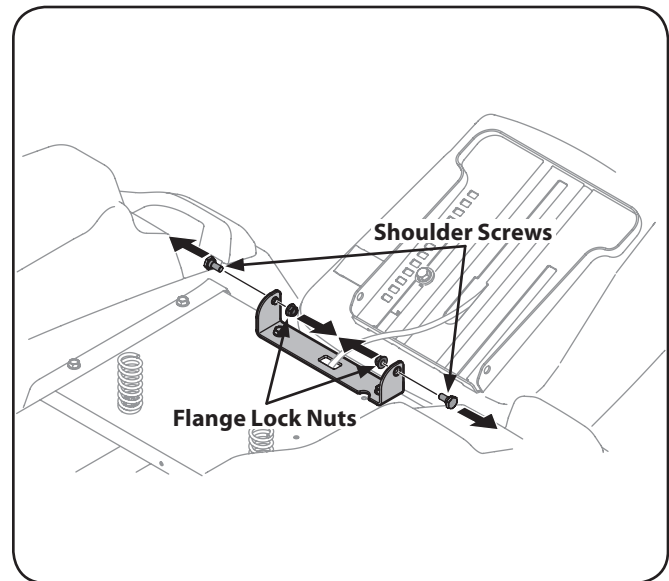

Figure 3-4
2. Remove the two shoulder screws and flange lock nuts in the seat pan as shown in Figure 3-4.